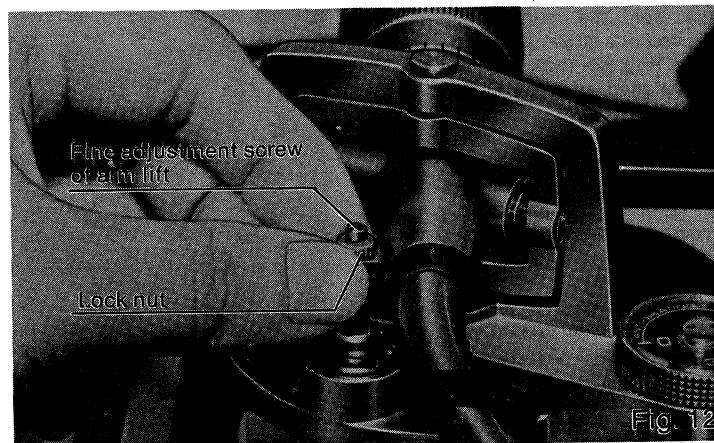

Fig. 12
2. To make the adjustment, first loosen the lock nut and then turn the screw for fine adjustment of the arm lift (Fig. 12).